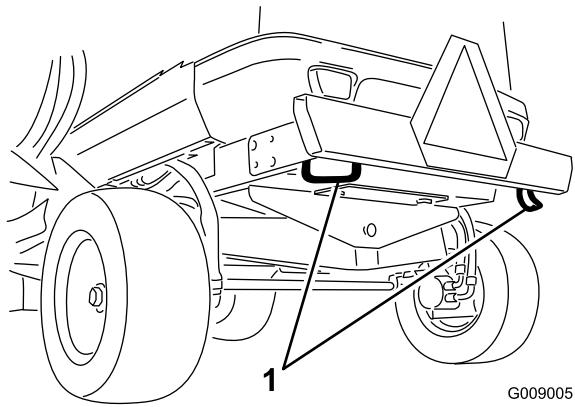

Figure 40
- Front tie down (2)
- The rear bumper (2 places) (Figure 40).